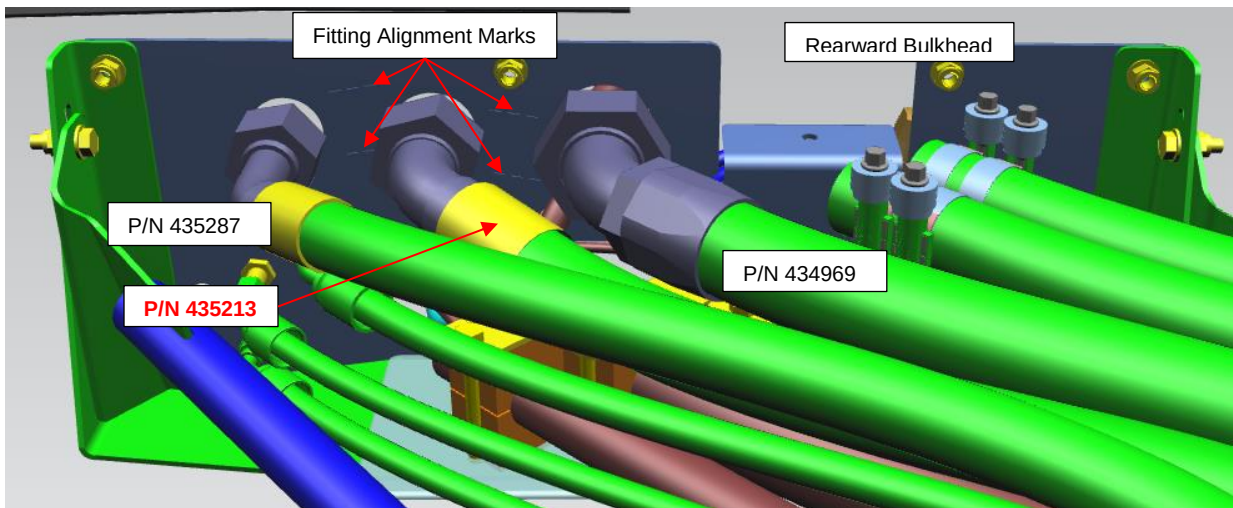

Figure 6: A/C Hoses & Alignment Marks at Rearward Bulkhead.
14. At the rearward bulkhead, reconnect the hoses to their respective connection points. Note that there are alignment marks on the bulkhead for orienting hose P/N 435213. Figure 6.